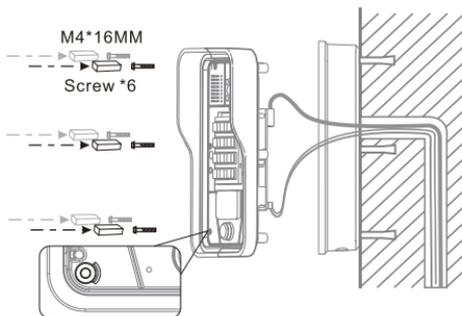

Figure 8
- A. **After locking the 6 screws into the corresponding position of the plastic housing, the 6 conductive sponges is loaded into a screw hole. As shown in Fig. 8, the rear shell is locked.**